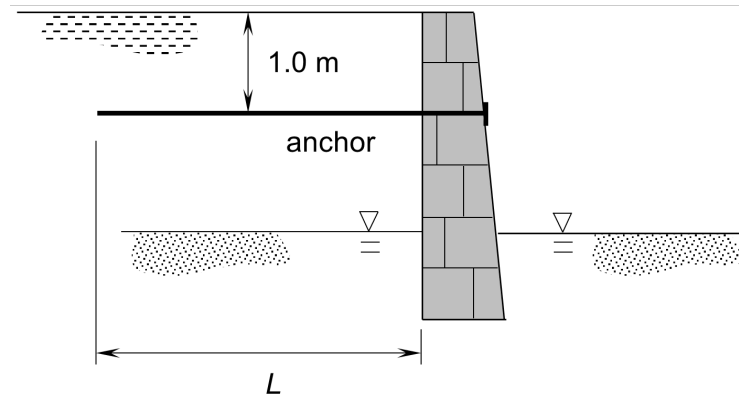

Fig. 2
- (e) As shown in Fig. 2, the stability of the wall could be improved by means of a line of horizontal anchors of length L (measured from the back of the wall), installed through the wall at a height of 1.0 m below the surface and spaced at 1.0 m centres along the length of the wall. Calculate the length L of the anchors needed to stabilise the wall. Assume that the anchors are made of flat strips of width 100 mm and that the angle of friction between the anchor and clay is 20° . [20%]